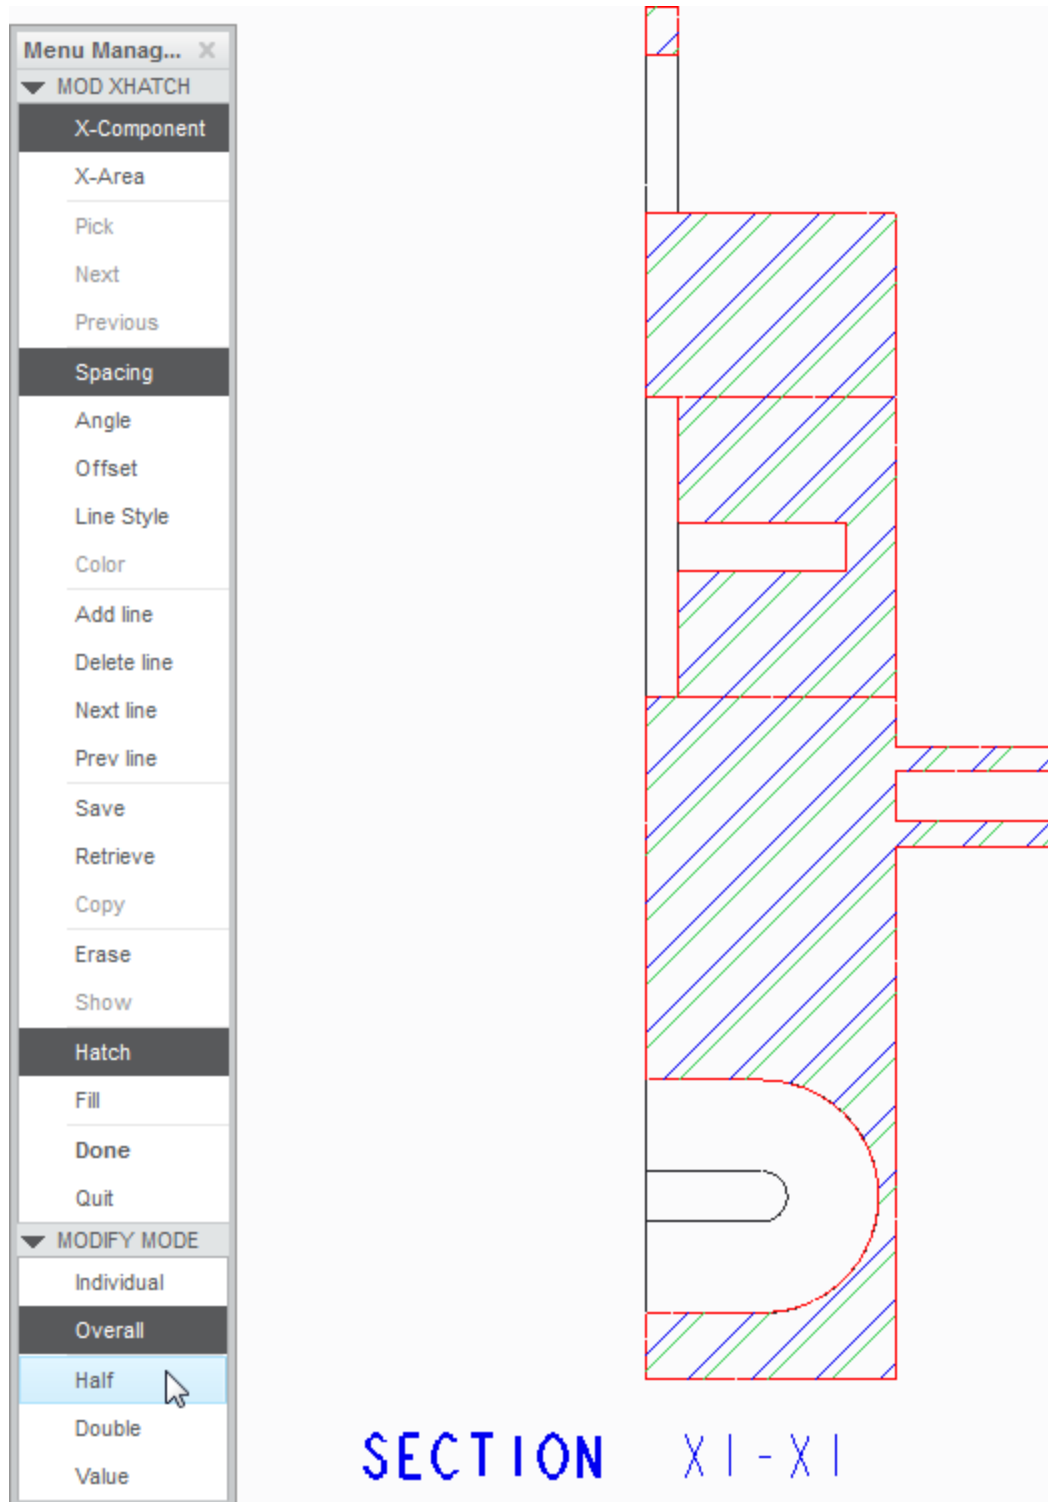

Figure 10: Created cross-section on right and spacing adjustment on left.
7. The section is ready, but you might want to adjust the cross-hatching. Double-click on the hatching to enter a menu, and click **Spacing** -> **Half /Double** until you are satisfied (Figure 10), and finally **Done**.